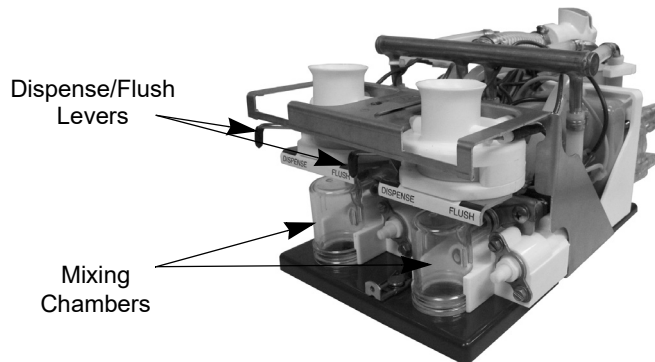

Figure 15. Platform Assembly with Dispense/Flush Levers
1. Move all of the Dispense/Flush levers (located on the platform assembly in the refrigerated cabinet) to the **Flush** position. Place an empty cup on the drip tray below each dispense nozzle (Figure 15).